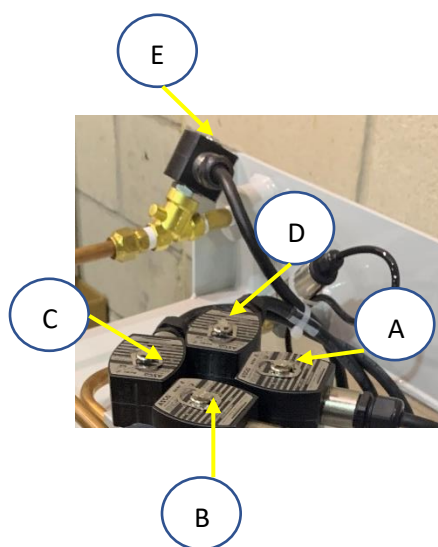

Figure 9-18: Manifold Valves
1. On the manifold, remove the Solenoids A, B, C, and D from the 4 Control Valves located on the manifold. Do not remove Solenoid E. **See Figure 9-18.**